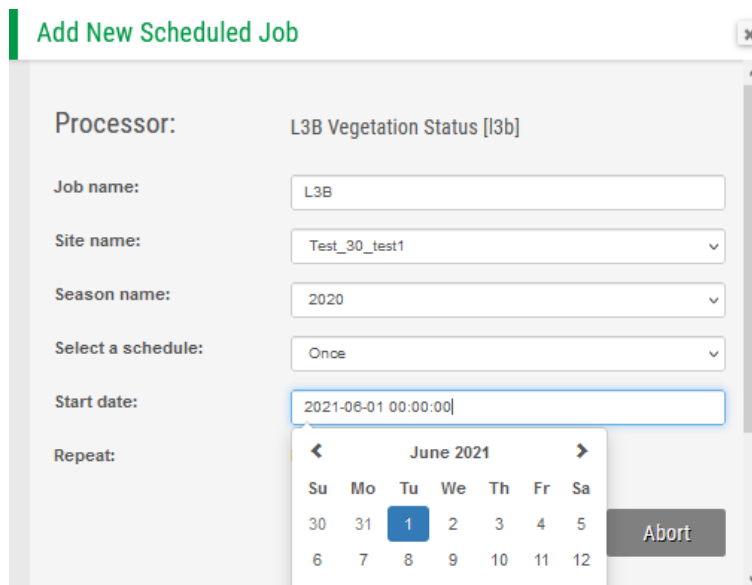

Figure 4-30. Adding “Once” scheduled type
- “Once” – this options specifies to the scheduled task to run only once at the specified date. Selecting this option, a new field “Date” will be added to the entry where the user can select the date when the scheduled task should run (Figure 4-30):